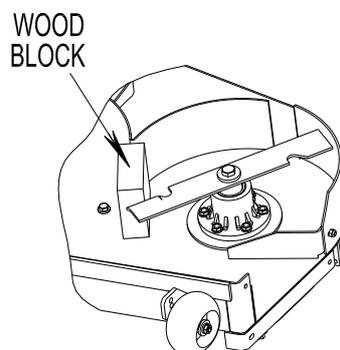

FIG 6
- d) Re-install the blades (if they were removed) by placing a block of wood between the front or rear baffles and the blade then torque the blade bolts to 115-120ft-lbs (156-163 N-M). Be sure the spring disk washer cone is installed toward the bolt head. (See Figure 6)